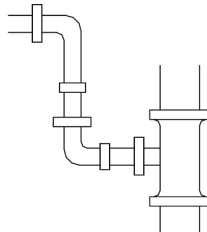

Fig 4.3.7
b. downspout elbow connection (Fig 4.3.7)